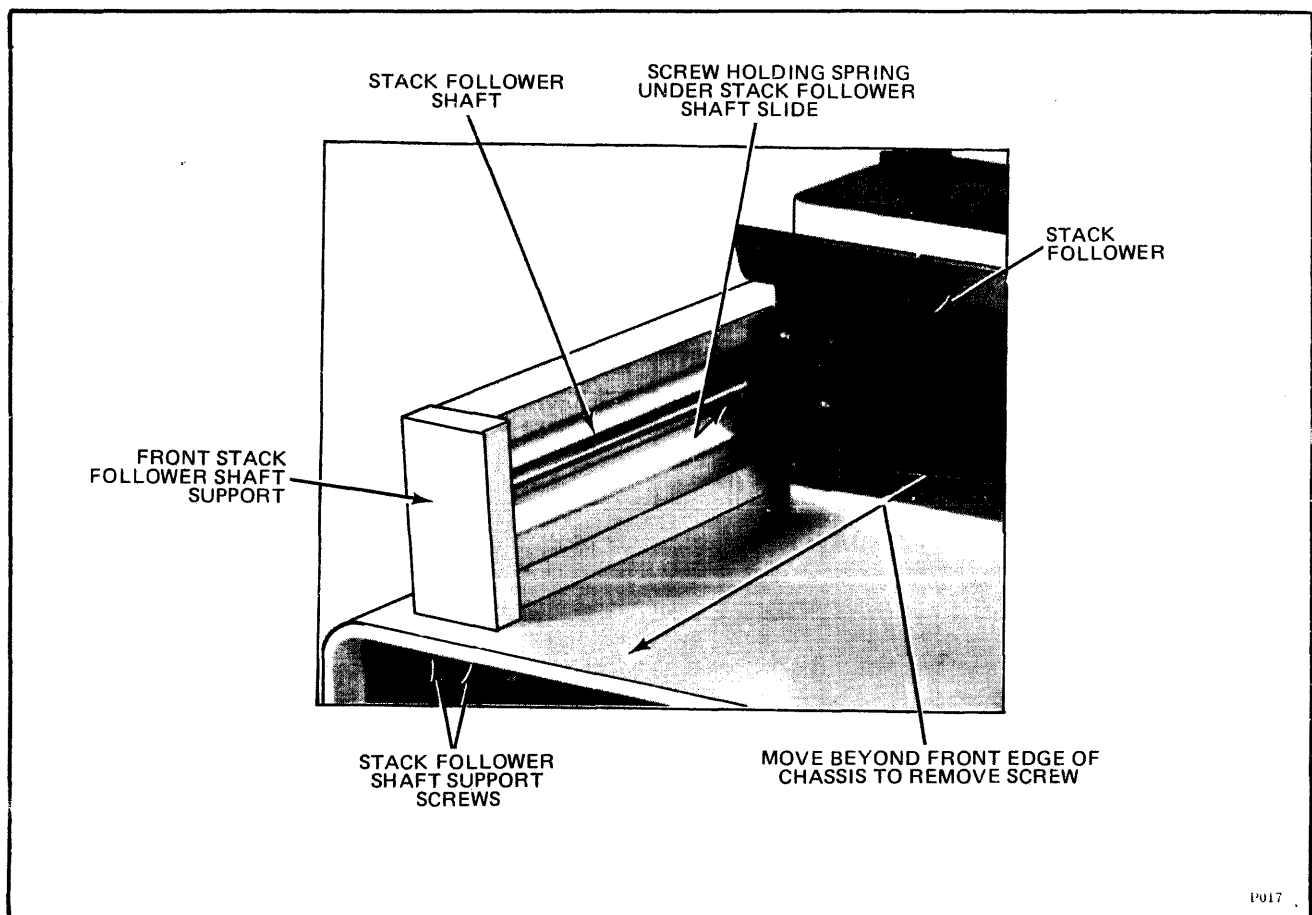

Figure 9-20. Stacker Negator Spring Replacement
- c. Remove two screws holding front stack follower shaft support, Figure 9-20.
- e. Remove stack follower shaft, Figure 9-20.